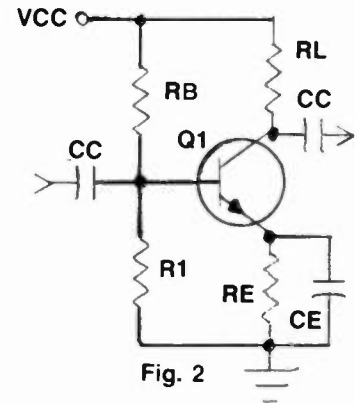

Fig. 2
20. In figure 2, the most likely indication of a shorted capacitor CE would be:
21. In figure 2, the most likely indication of a shorted capacitor CC would be:
22. In figure 2 the input and output signals are in phase. This could be an indication that: